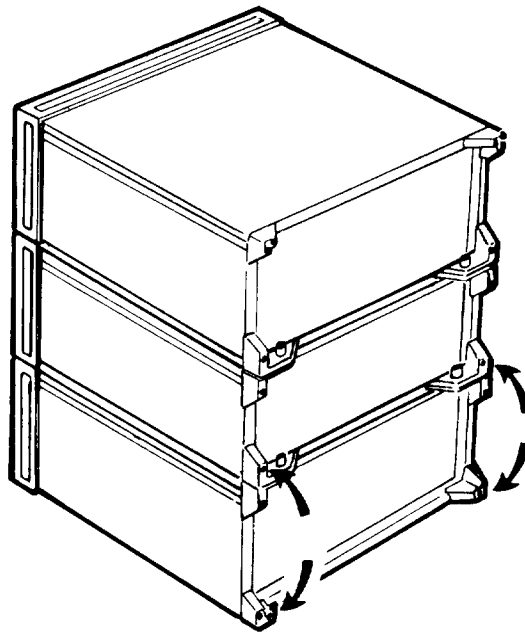

Figure 1-6. Lock Feet Installation
4. Exchange the preselector's bottom rear lock feet with the spectrum analyzer's bottom rear feet, as in Figure 1-6.